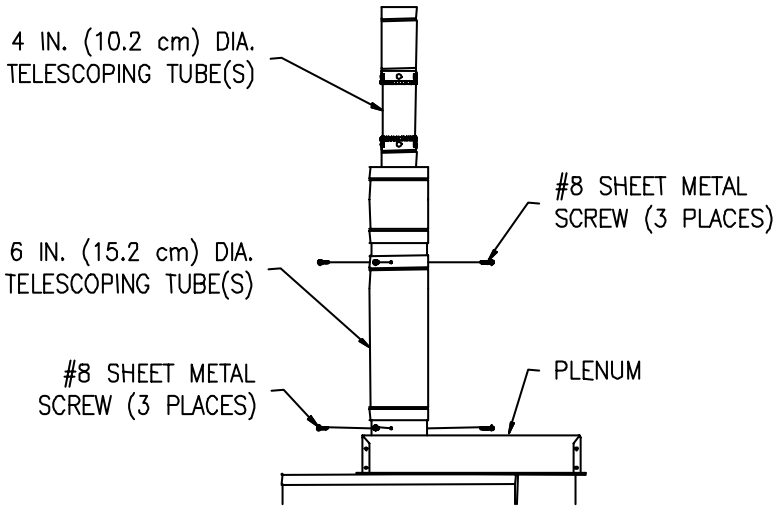

Figure 6b
Join the six (6) inch (15.2 cm) diameter telescopic tubes by inserting the small end of a tube into the large end of another, one (1) inch (2.5 cm) (or until seated). Drill three (3) 1/8 inch (3.2 mm) diameter holes, 120° apart, through each joint where the six (6) inch (15.2 cm) diameter telescopic tubes are joined. At this time, DO NOT drill holes where the small and large sections of the six (6) inch (15.2 cm) diameter telescopic tubes overlap. Fasten each joint with three (3) #8 sheet metal screws (supplied). Compress the joined six (6) inch (15.2 cm) diameter telescopic tubes to minimum length. Place the large end of the joined six (6) inch (15.2 cm) diameter telescopic tubes through the hole in the ceiling (if applicable). Place the small end of the joined six (6) inch (15.2 cm) diameter telescopic tubes over the joined four (4) inch (10.2 cm) diameter telescopic tubes and plenum collar until seated on top of the plenum box. Drill three (3) 1/8 inch (3.2 mm) diameter holes, 120° apart, through the joined six (6) inch (15.2 cm) diameter telescopic tubes into the plenum collar. Fasten with three (3) #8 sheet metal screws (supplied). (See Figure 6b).